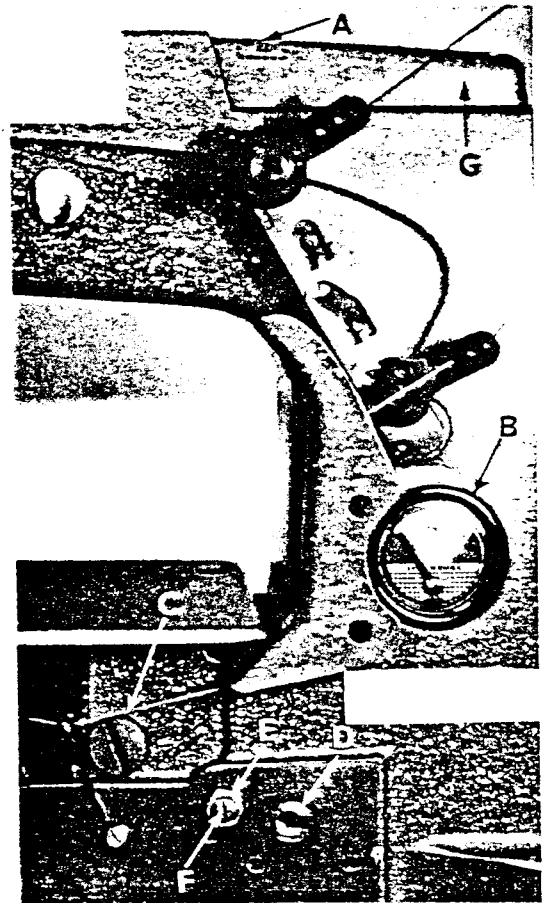
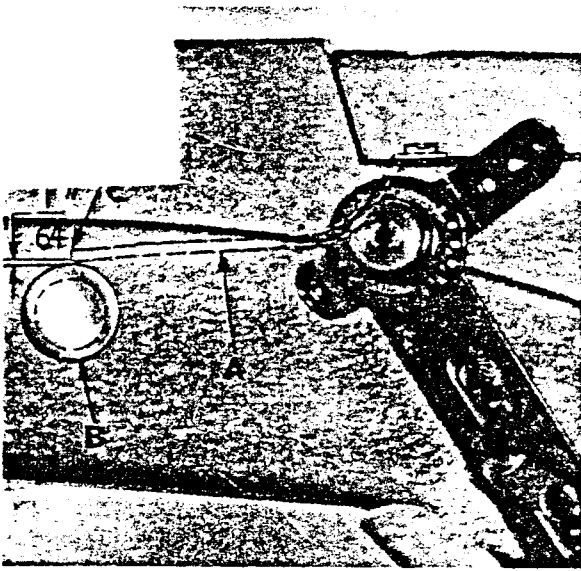

Fig. 2
Fig. 3
Use Singer Type C oil or equivalent. Fill main reservoir at plug screw in upper crank chamber cover (A, Fig. 2) and check oil level at gauge (B). Oil is at maximum level when needle is in yellow band marked "Full". Oil should be added when needle is in yellow band marked "Low". Recommended grease No. 28604 P (See Page 10).
For machines in operation check the oil for dirt and lint deposits at reasonable intervals. If dirty, change the oil. An oil change is recommended every 2000 operating hours. Oil may be drained from main reservoir by removing plug screw (C, Fig. 2) located below the cloth plate at front of the machine, or by removing the lower crank chamber cover, located at the back of machine.
2. Remove the oil reservoir plug screw (C, Fig. 2) and tip machine forward to drain oil from the reservoir.
5. Fill main reservoir to a level even with the bottom contour of the knee press shaft bushing (D, Fig. 2).
6. Loosen lock nut (E) on calibrating screw (F), and turn the screw to the left or right until the gauge needle rests in the middle of the yellow band marked "LOW".
7. Tighten lock nut (E) and replace plug screw (C).
Remove the head cover and upper crank chamber cover (G, Fig. 2). Check position of needle lever bearings oiler (A, Fig. 3) located inside the arm casting, below the upper crank chamber cover, which lubricates the needle lever stud (B). Make sure it is tilted downwardly and that its delivery end (C) contacts the inside wall of the bed casting at the back, just above the notch of the needle lever shaft stop collar. (Do not allow the oiler to rest on the needle lever.) Allow 1/64 inch clearance as in Figure 3.